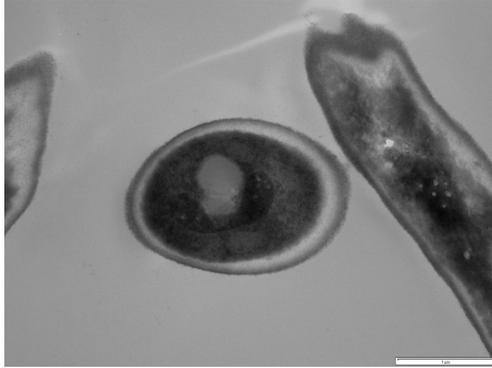

Figure 1. Transmission Electron Microscopy image of a *Candida albicans* biofilm cell
- e. Samples can now be analyzed by TEM. A sample picture of a reference strain *Candida albicans* biofilm is shown below (Figure 1). Most pictures will only show one or two cells at a time, and usually cross-sectioned so that you can see inside the cells. Scale bar represents 1 µm.